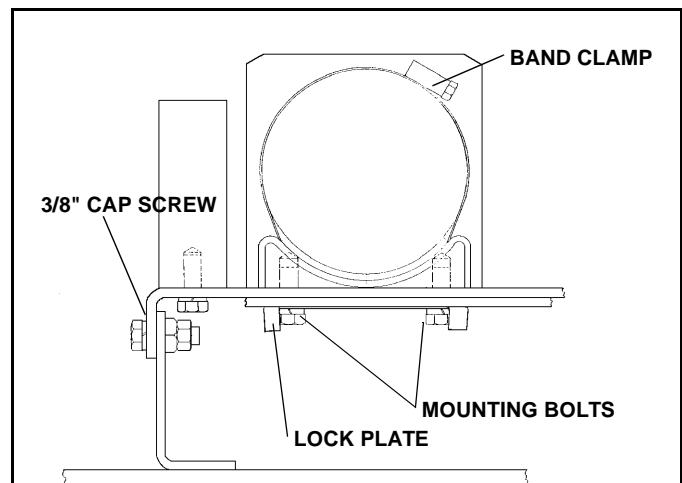

Figure 2-2
5. Remove two 3/8" Cap Screw securing Pump unit to A-Frame. (See Figure 2-2)
6. Loosen Band Clamp. (See Figure 2-2)
7. Tilt Power unit up and remove two 3/8" Cap Screw securing Pump unit to frame. (See Figure 2-2)